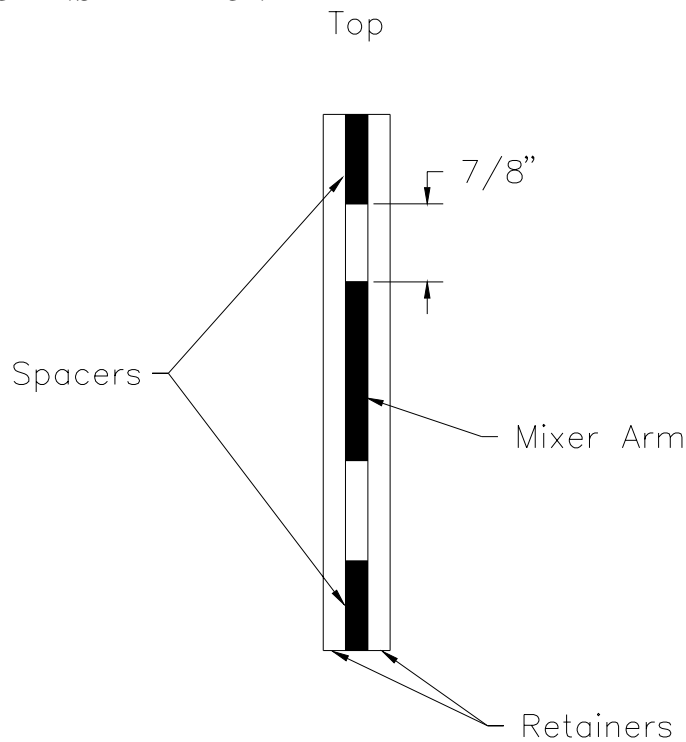

Figure 20.6.13
36) Adjust the mixer arm (CC-76) so that there is 7/8" clearance between the mixer and the top spacer block. Figure 20.6.13.